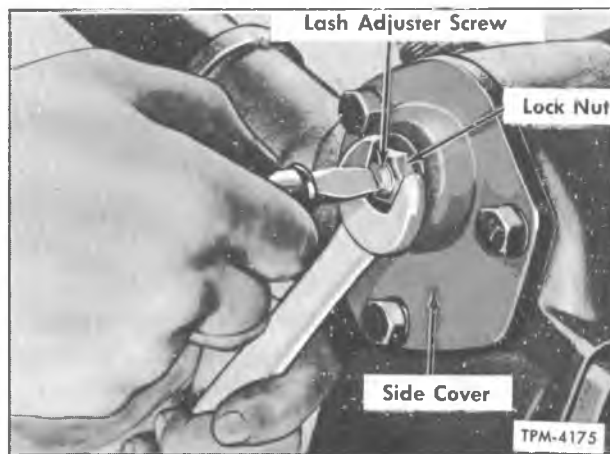

Figure 4—Adjusting Sector Gear Lash
2. Loosen lock nut and turn lash adjuster (fig. 4) a few turns counterclockwise to relieve load from worm bearings and to provide clearance between the sector gear and worm ball nut.
2. Loosen lash adjuster lock nut and turn adjuster screw (fig. 4) clockwise to remove all back lash between gear teeth. Tighten lock nut to 25-35 foot-pounds torque, then check steering wheel rim pull as outlined previously. Measure greatest pull as wheel is pulled through center position. Rim pull should be $2\frac{3}{4}$ to $3\frac{1}{4}$ pounds.